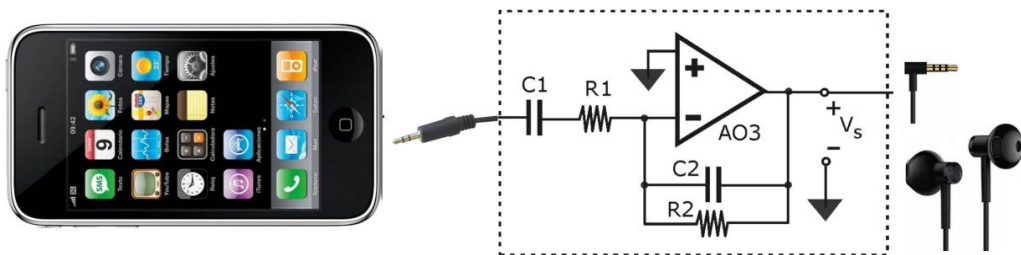

Figure 5. Connection of the mobile phone to the amplifier based on OA.
21. Once you have checked the correct operation of the headphones and their connection to the amplifier, connect the audio output of your mobile phone via a 3.5 mm jack plug to the input of the AO-based amplifier (Stage 2 of Figure 5). Connect the headphones to the output of the amplifier and listen to music that you have recorded or download it from the web. It is recommended to lower the volume of the telephone itself to a minimum since the amplifier already provides gain.